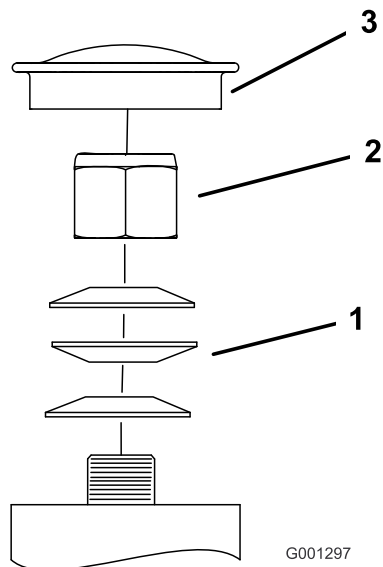
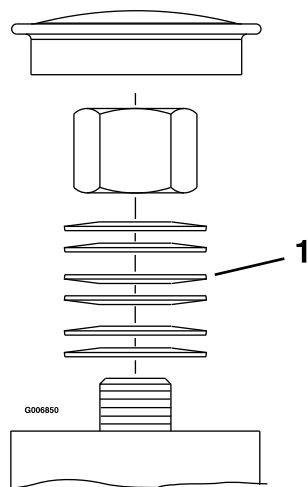

Figure 43
Figure 44
3. Remove the dust cap from the caster and tighten the locknut (Figure 43 and Figure 44).
- Tighten the locknut until the spring washers are flat and then back off 1/4 turn to properly set the pre-load on the bearings (Figure 43 and Figure 44).
Important: Make sure that the spring washers are installed correctly as shown in Figure 43 and Figure 44.